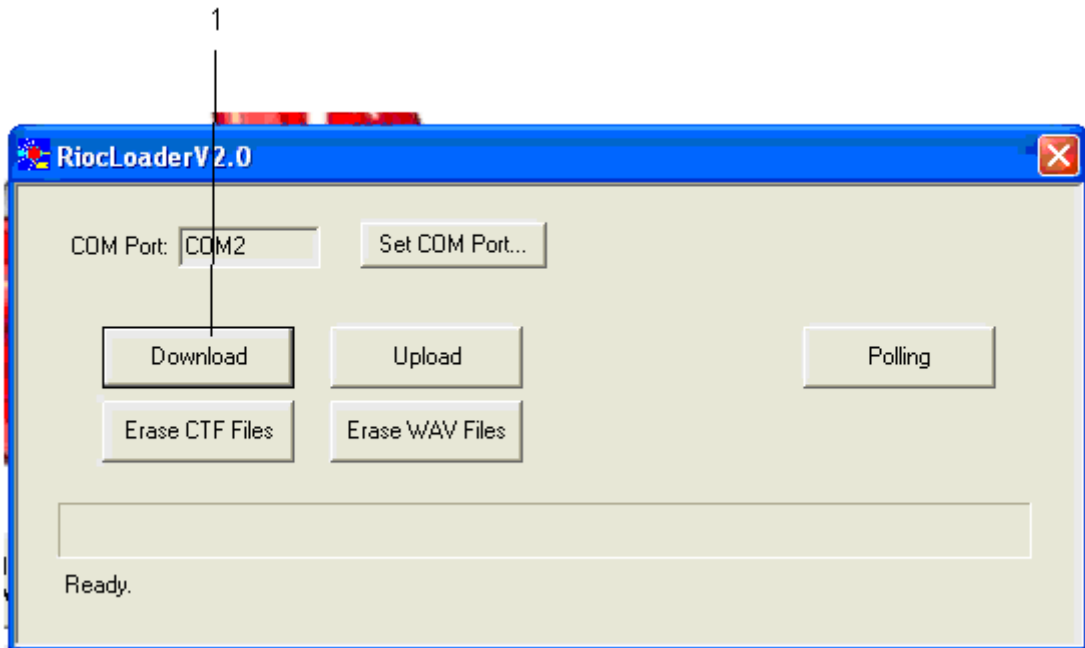

Figure 3
- (11) For RIOCI 2 you must download the files that follow:
- (12) For each configuration file that must be downloaded do Step 2.B.(12)(a) thru (c).
- (a) Select the Download button (Ref. Fig 3, Item 1).